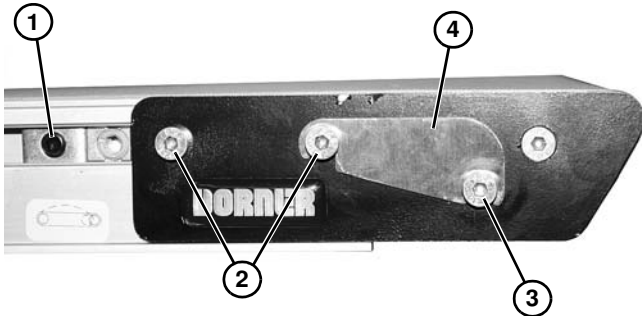
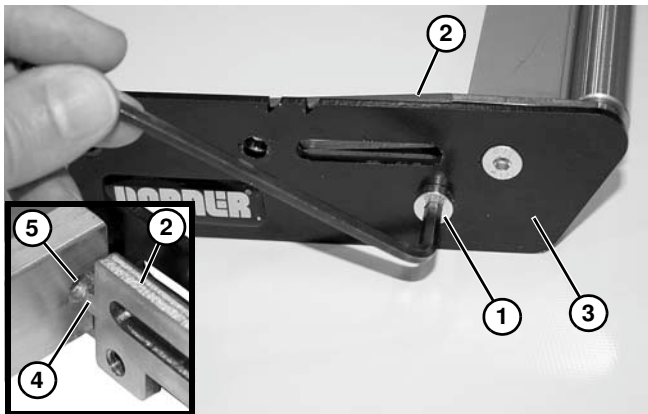

Figure 64
Figure 65
1. On both sides of conveyor, loosen cam fastening screw (**Figure 64, item 1**) (if equipped) and slide cam assemblies toward the center of the conveyor.
2. On both sides of conveyor, loosen fastening screws (**Figure 64, item 2**) to remove belt tension. Remove belt from end of conveyor.
3. On both sides of conveyor, loosen fastening screw (**Figure 64, item 3**) and remove dust cover (**Figure 64, item 4**) (if equipped).
4. Remove nose bar tail from the conveyor and place on an open work surface. On one side of nose bar tail, remove two fastening screws (**Figure 64, item 2**).
5. Remove lower screw (**Figure 65, item 1**) and remove tail nut bar (**Figure 65, item 2**) and side plate (**Figure 65, item 3**).
*During reassembly, make certain that the tail nut bar nipple (**Figure 65, item 4**) is inserted into the support bar hole (**Figure 65, item 5**).*
10. Assemble and install headplate in reverse order of removal. Use a 4 mm hex-key wrench to tighten lower screw (**Figure 65, item 1**) to 3.4 Nm. Leave two fastening screws (**Figure 64, item 2**) loose for belt tensioning.